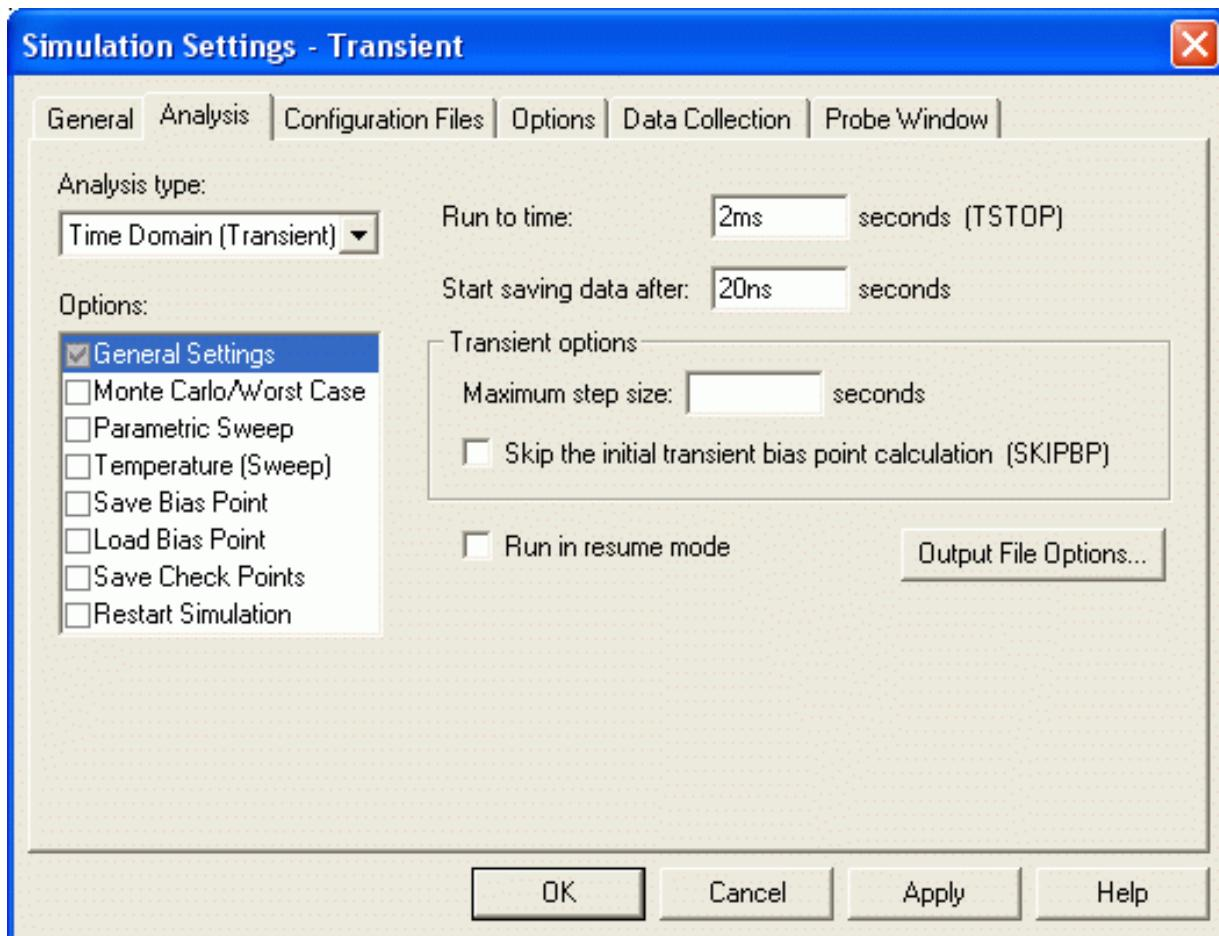

Figure 2-18 Transient analysis simulation settings.
5. From the Analysis list, select Time Domain (Transient) and enter the settings shown in Figure 2-18.